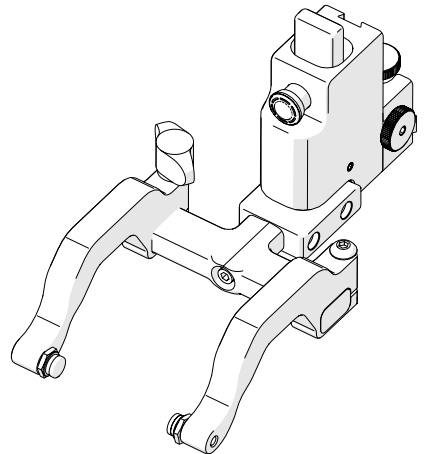

Fig. 206 - 90° probe holder positioning
2. Orient the yoke to the front of the probe holder and screw the yoke into the threaded hole provided (Fig. 206).